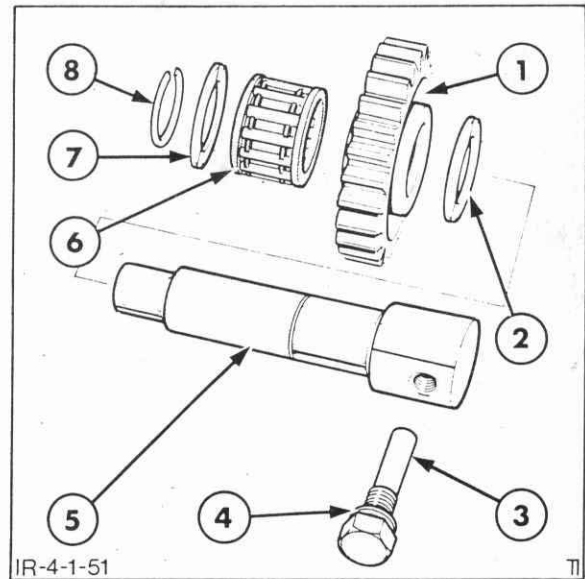

Figure 4-185
1. Thoroughly clean the reverse idler gear components, Figure 4-185, with a suitable solvent and allow to dry.